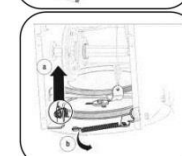

Figure 17
- b. Unhook the support bracket spring from the frame. See Figure 17.